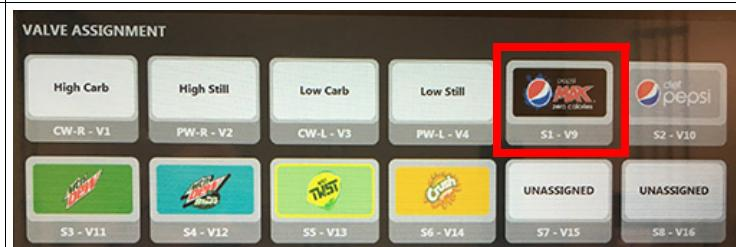

Figure 43
**Result:** The **Service Screen** shows the new selected brand (Pepsi MAX in this example) for the valve assignment. See Figure 43.